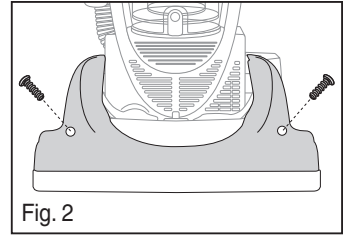

Fig. 2
- 1) Remove 2 screws from the front side of brush roll cover (Fig. 2).